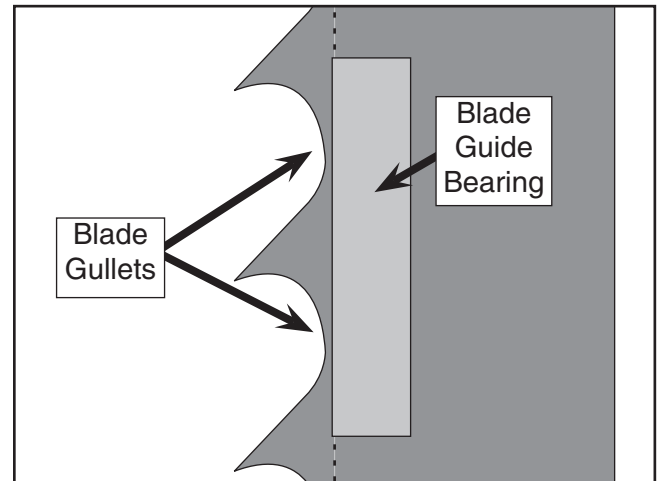

Figure 24. Proper position of blade guides.
5. Loosen the hex bolt on the adjustment bar and slide the bar forward or backward until the bearings rest $\frac{1}{16}$ " back from the blade gullets as shown in **Figure 24**.